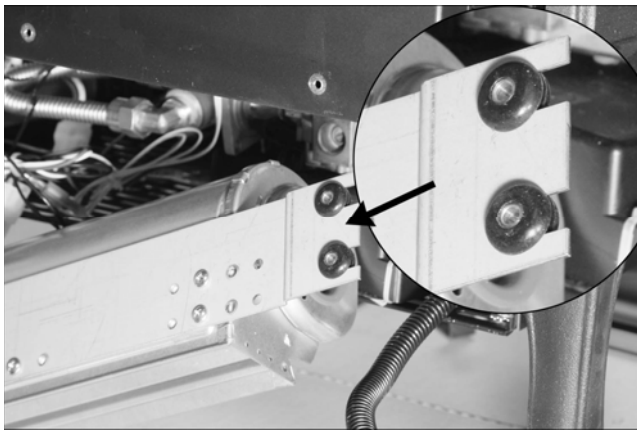

Figure 10
11. Press a grommet (with brass insert) into each of the two slots at the right side of the fan mounting plate. The edges of the sheet metal slide into the groove around the grommet. Push the grommets all the way into the slots. See Figure 10.